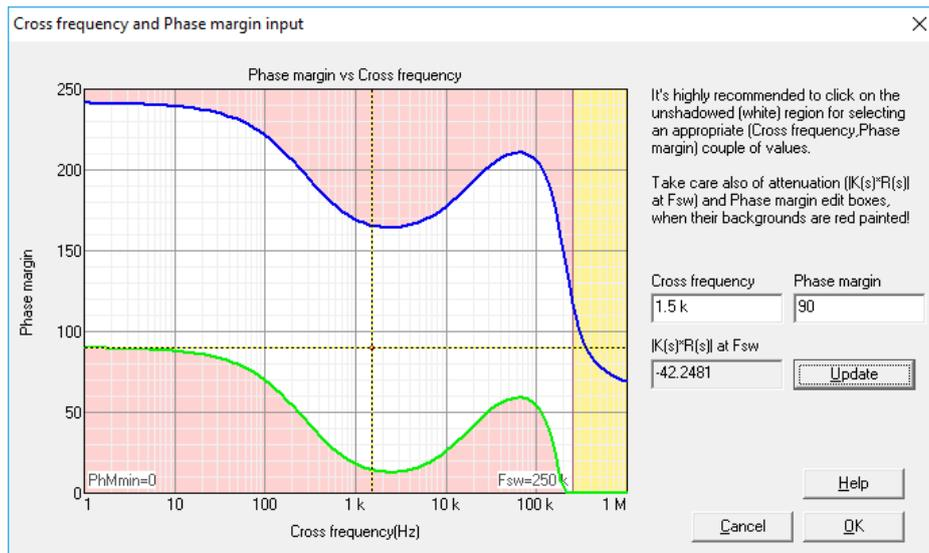

Figure 10: Solution map with the point selected
- Select the phase margin and the crossover frequency of the open loop. SmartCtrl provides the solutions map in order to ease the selection of these parameters. Select a  $f_c$  of 1.5kHz and a PM of 90 degrees and click OK to validate the selection. See Figure 10.